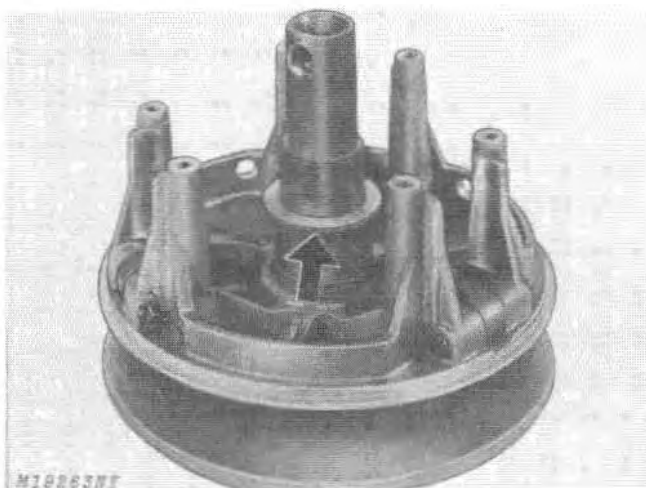

Fig. 13-Installing Spacer Rings
1. Install movable face over fixed face hub with required number of spacer rings, Fig. 13.